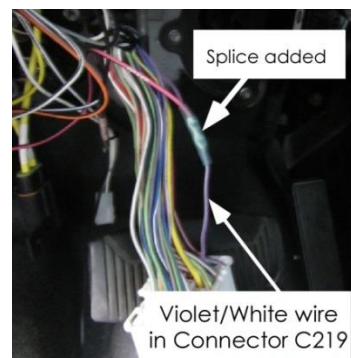

Figure 44. Violet/White wire in Connector C219 shown with splice.
8. Locate the five (5) wires in the LS Dash Harness labeled “Chassis Connections”.
10. Locate the Violet/White 18 ga. wire in pin #37 of connector C219. Unwind the plastic tape to gain access to the Violet/White wire at least 8” from white connector C219 and cut the wire ≈6” from connector C219. See Figure 44.